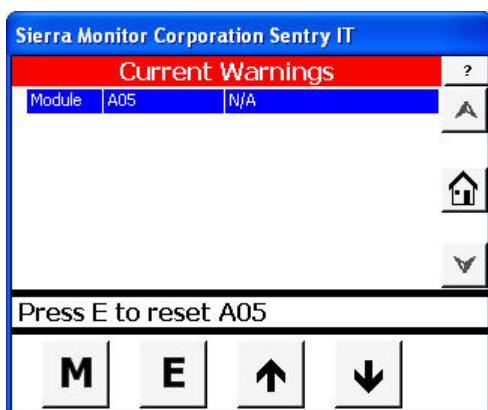

Figure 5-9 Current Warning
- Select the warning and touch Enter (**E**) key. (See Figure 5-9 Current Warning)